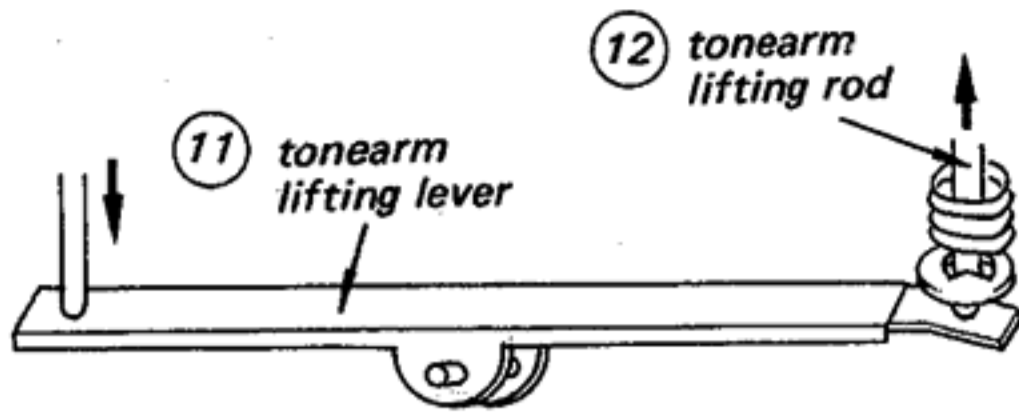

Fig. 1-5. Tonearm lifting lever movement
The main cam (8) rotates and moves the tonearm lifting lever (11), causing the tonearm lever ass'y (1) to pivot and raise the tonearm lifting rod (12) as shown in Fig. 1-5.